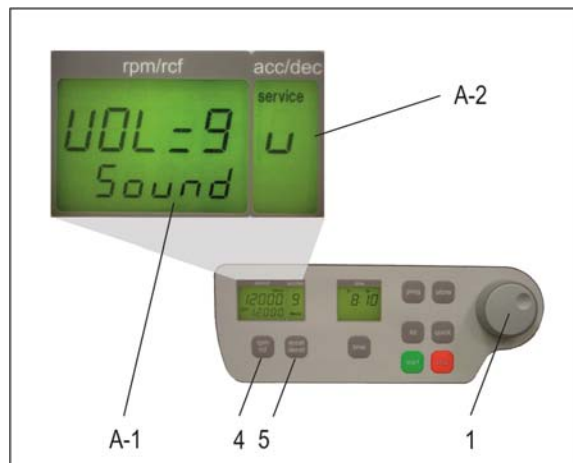

Figure 6
Proceed as described under point 1.8.2 to enter this program mode and then press the key „accel/decel“ (5). In the display „accel/decel“ (A-2) flashes the word „service“. Now select the letter „U“ with the adjusting knob (1). As a result appear in the display „rpm/rcf“ (A-1) the words „Vol=0-9/Sound“. After pressing the key „rpm/rcf“ (4), you can adjust the desired volume between 0 (low) and 9 (loud) with the adjusting knob (1) (see figure 6).